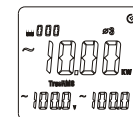

Figure 7-5
- As shown in Figure 7-5, please press SELECT key to select the 3rd phase location. It also can display active power, voltage and current of phase location of $\phi 3$.